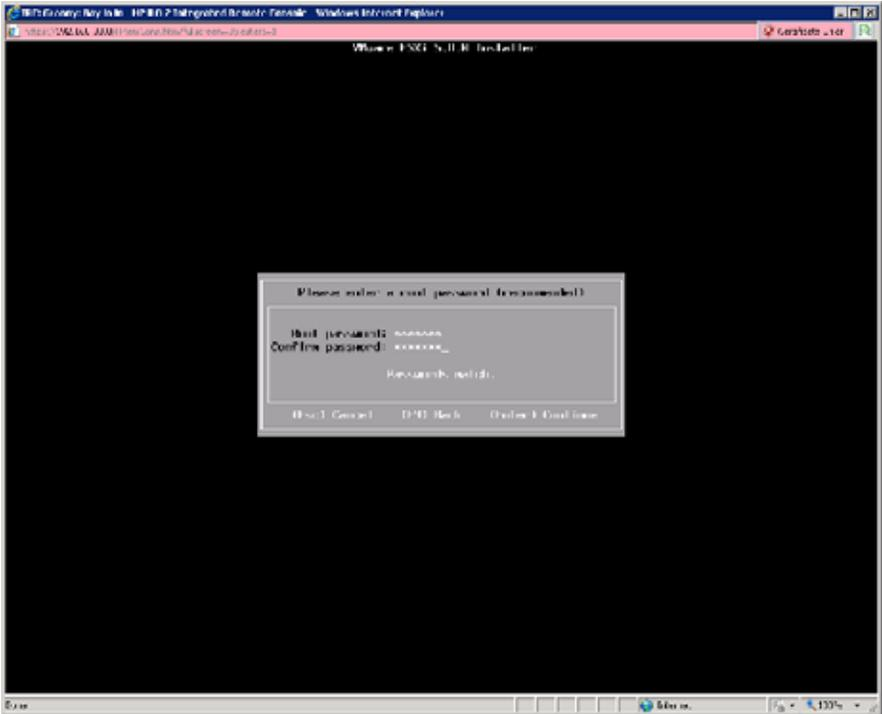

Figure 9 Log In to ESXi 5.0 Server
Step 9 When prompted, log in to the ESXi 5.0 server. You will need to log in to the server to complete the installation. Figure 9 on page 83 shows the log in prompt.